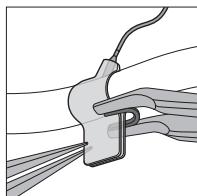

Figure 5
2. Hold the straps flat and against each other, leaving enough space to apply a vascular clip (See Figure 5).